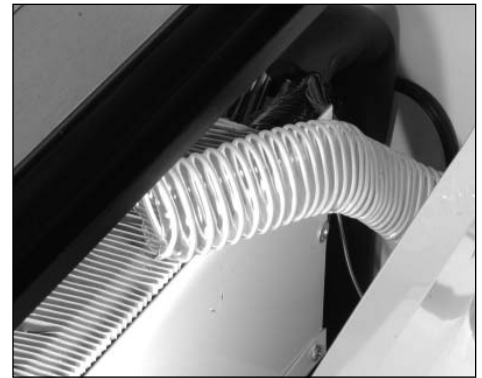

Figure 6.
**IMPORTANT:** Note the proper position of the flexible tubing on top of evaporator. (See Fig. 6). Hose will need to be repositioned in the same area to ensure proper conditioned air circulation.
**NOTE:** Replace flexible hose in the original position as indicated in Fig. 6. Failure to replace properly will result in compromised unit operation.